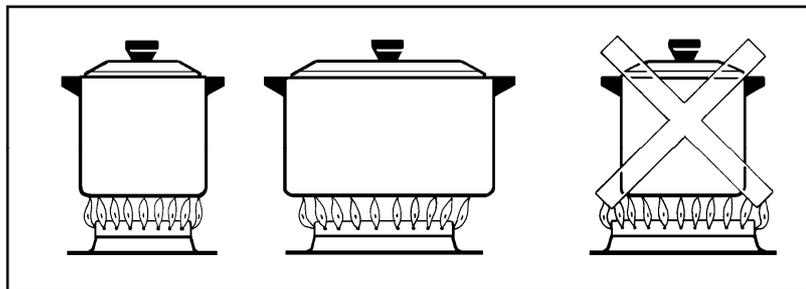

Fig. 6
***Warning*** - The pots used on the cook-top burners should not have a concave or convex base but rather, a full base (Fig. 6). They should have the following minimum diameter: